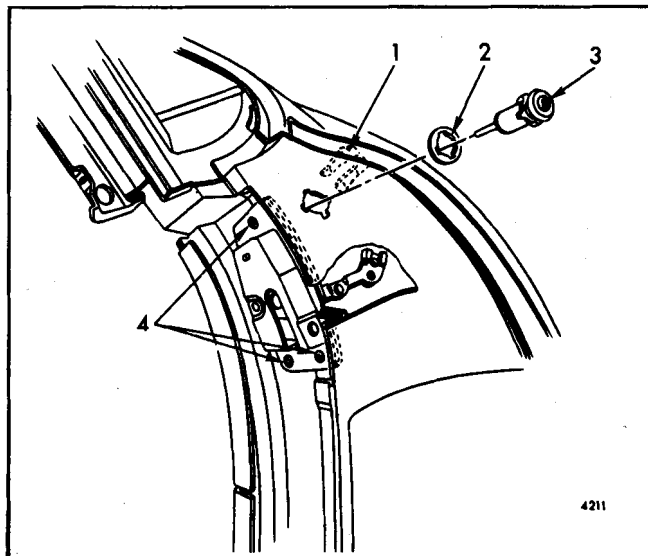

Fig. 9-26-Lock and Lock Cylinder Attachment
4. Remove lock attaching bolts at pillar facing, disengage lock lever from switch assembly link and remove lock (Fig. 9-26).
2. Remove key cylinder retaining clip and remove cylinder (Fig. 9-26).